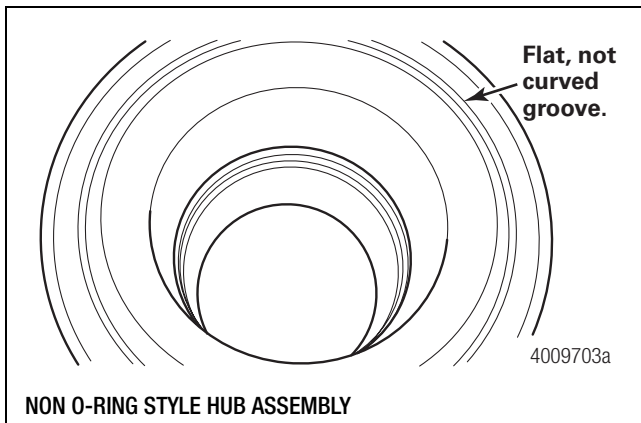

Figure 13
- If the bearing does not have a machined groove as shown in Figure 13: It is a non O-ring style hub. No O-ring is required.